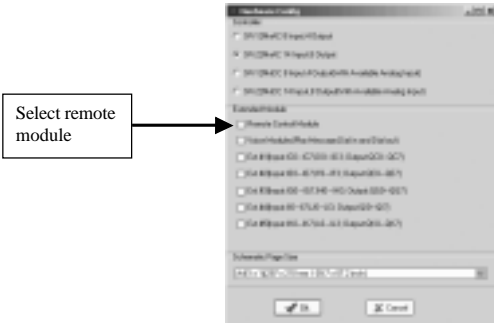

Fig. 6.5 Hardware Configuration
- 4. User must edit the Remote control instruction in control program, such as in Fig.6.5